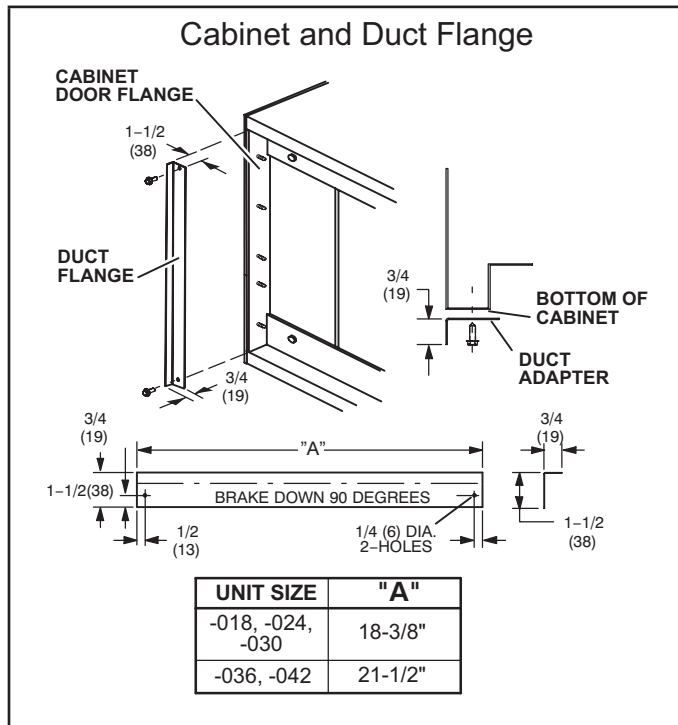

FIGURE 13. Cabinet and Duct Flange
- 4 - Connect the suction and liquid lines to the evaporator coil. Take care to protect the cabinet and internal components as detailed in FIGURE 13.